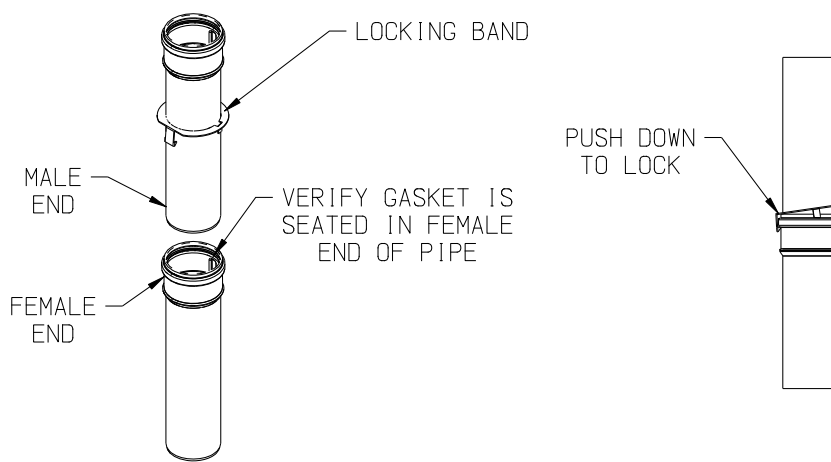

FIGURE 7.35: POLYPRO LOCKING BAND INSTALLATION
- c. For each joint, verify that the gasket is evenly seated in the bell (female) end of the pipe. Lubricate this gasket with water. Slide a locking band over the male end of the pipe to be joined as shown in Figure 7.35. Push the male end of the next section of pipe into the bell until it bottoms out, then back out 1/4-5/8" to provide room for thermal expansion. Push barb on locking band over the bell end of the first section of pipe as shown in Figure 7.35.